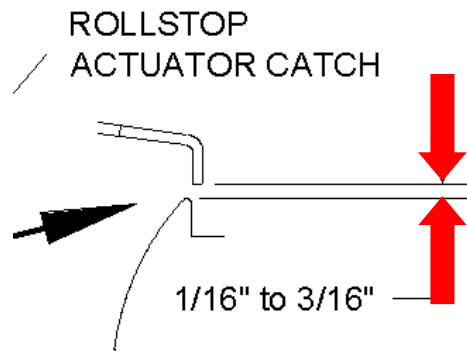

FIGURE 4-21: ROLLSTOP ACTUATOR
- 13) Refer to **Figure 4-21**. Close Rollstop so that engagement hook clears the inside of actuator catch and listen for "click" from Rollstop closed Switch which signals a change in switch state.